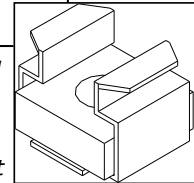

Figure 23: Square Bolt
There are two (2) leveling legs and they can be found inside the manual bag. Each leveling leg consists of a long bolt, a hex nut, a washer, and a square bolt with clip (see Figure 23). For installation of the leveling legs the unit should be on its back and a ½" wrench is required for adjustments.